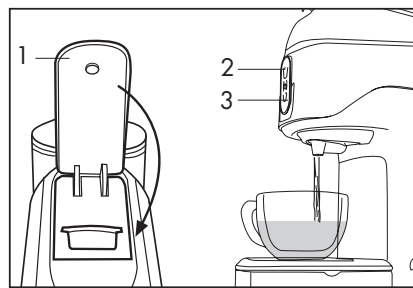

Fig. 8
**Before inserting the capsule, slowly and completely lift the control lever (1) located on the top of the machine to eject the old capsule. For correct hygiene and to maintain high product quality it is advisable to eject the capsule immediately after dispensing.**
- Completely close the lever (1), press a dispensing button (2-3) depending on the model and according to taste, and press it again to stop dispensing when the desired quantity of coffee or beverage is reached (**Fig. 8**). In case of difficulty in closing the lever, completely open it and close it again.
- To prepare a long coffee (American style) press the dispensing symbol (3) and, after having prepared the espresso coffee and ejected the empty capsule, dispense the desired amount of hot water.
- To extract the capsule, slowly lift the lever (1). If the capsule is not ejected, repeat the operation or press the dispensing symbol (2) and lift the lever (1) at the same time.